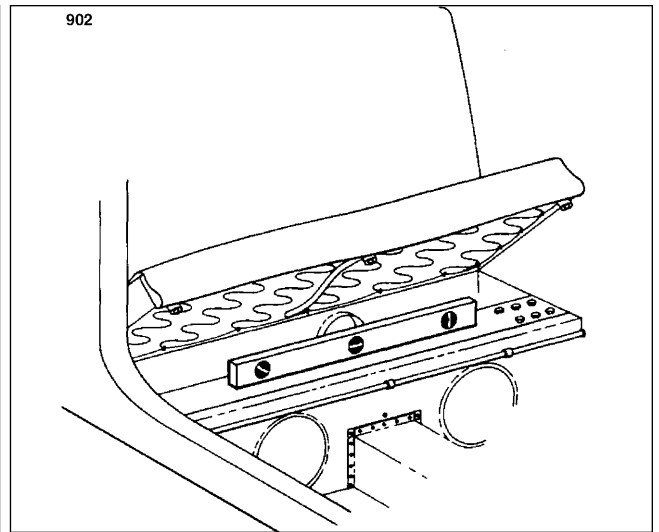

Figure 2-35. Leveling Laterally
- a. To laterally level the airplane, place a level across the spar box assembly located at the forward baggage area of the PA-28-140 or under the rear seat of the PA-28-150, -160, -180; PA-28-235; PA-28R. (Refer to Figure 2-35.) Raise or lower one wing tip by deflating the appropriate tire on the high side of the airplane or adjust either jack until the bubble of the level is centered.